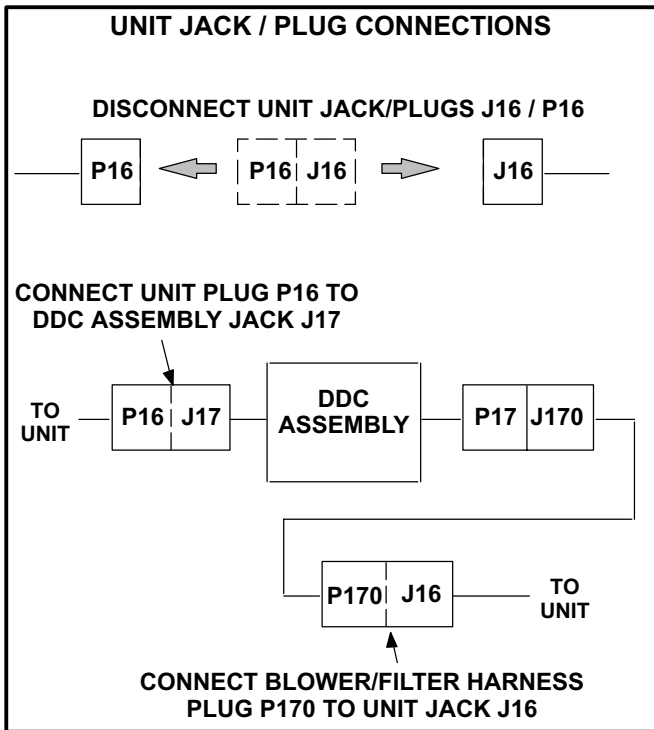

FIGURE 4
- 1- Disconnect J16/P16 unit jack/plugs located near the IMC board. Connect unit plug P16 to DDC jack J17 and unit jack J16 to DDC plug P17. See figure 4.